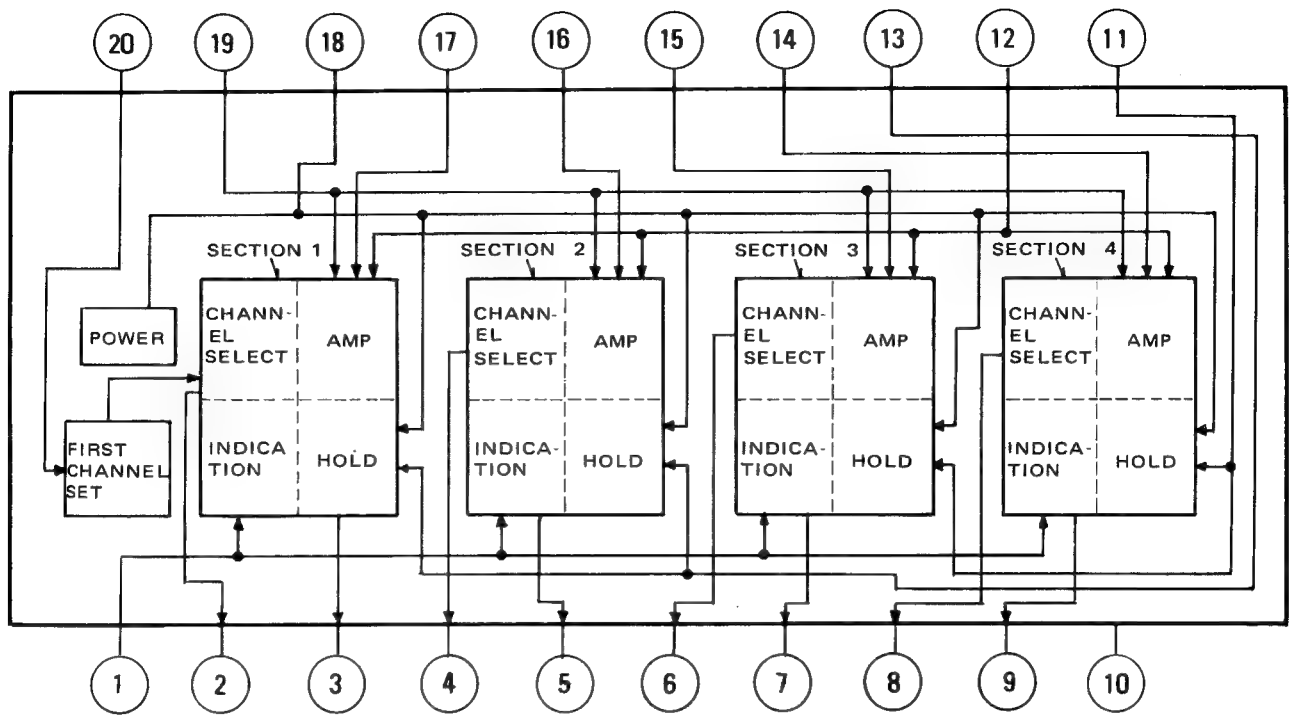

Fig. 42 Abb. 42
1) Channel selecting and holding (See Fig. 42, 43)
- When a sensor touch board is touched, power source hum is applied to a high resistance through the human body and fed to each of the hum input pins (⑭ - ⑰).
- For example, if channel selection input is applied to pin ⑰, input exceeds 1.5V and Q109 switches ON. Then Q107, Q108 and Q106 switch ON to amplify the input signal.
- Q105 switches ON and the TR emitter current passes through R1024 to raise the R1024 voltage (pins ①, ⑬) above the base potential of Q104, thus all channels.
- As current runs through Q102, the voltage of pin ② drops to near zero volts. Electronic tuner operating voltage is selected from the potentiometer middle point.
2. Kanalwähler mit IC (TVS μ PC1009C) (siehe Bild 42, 43)